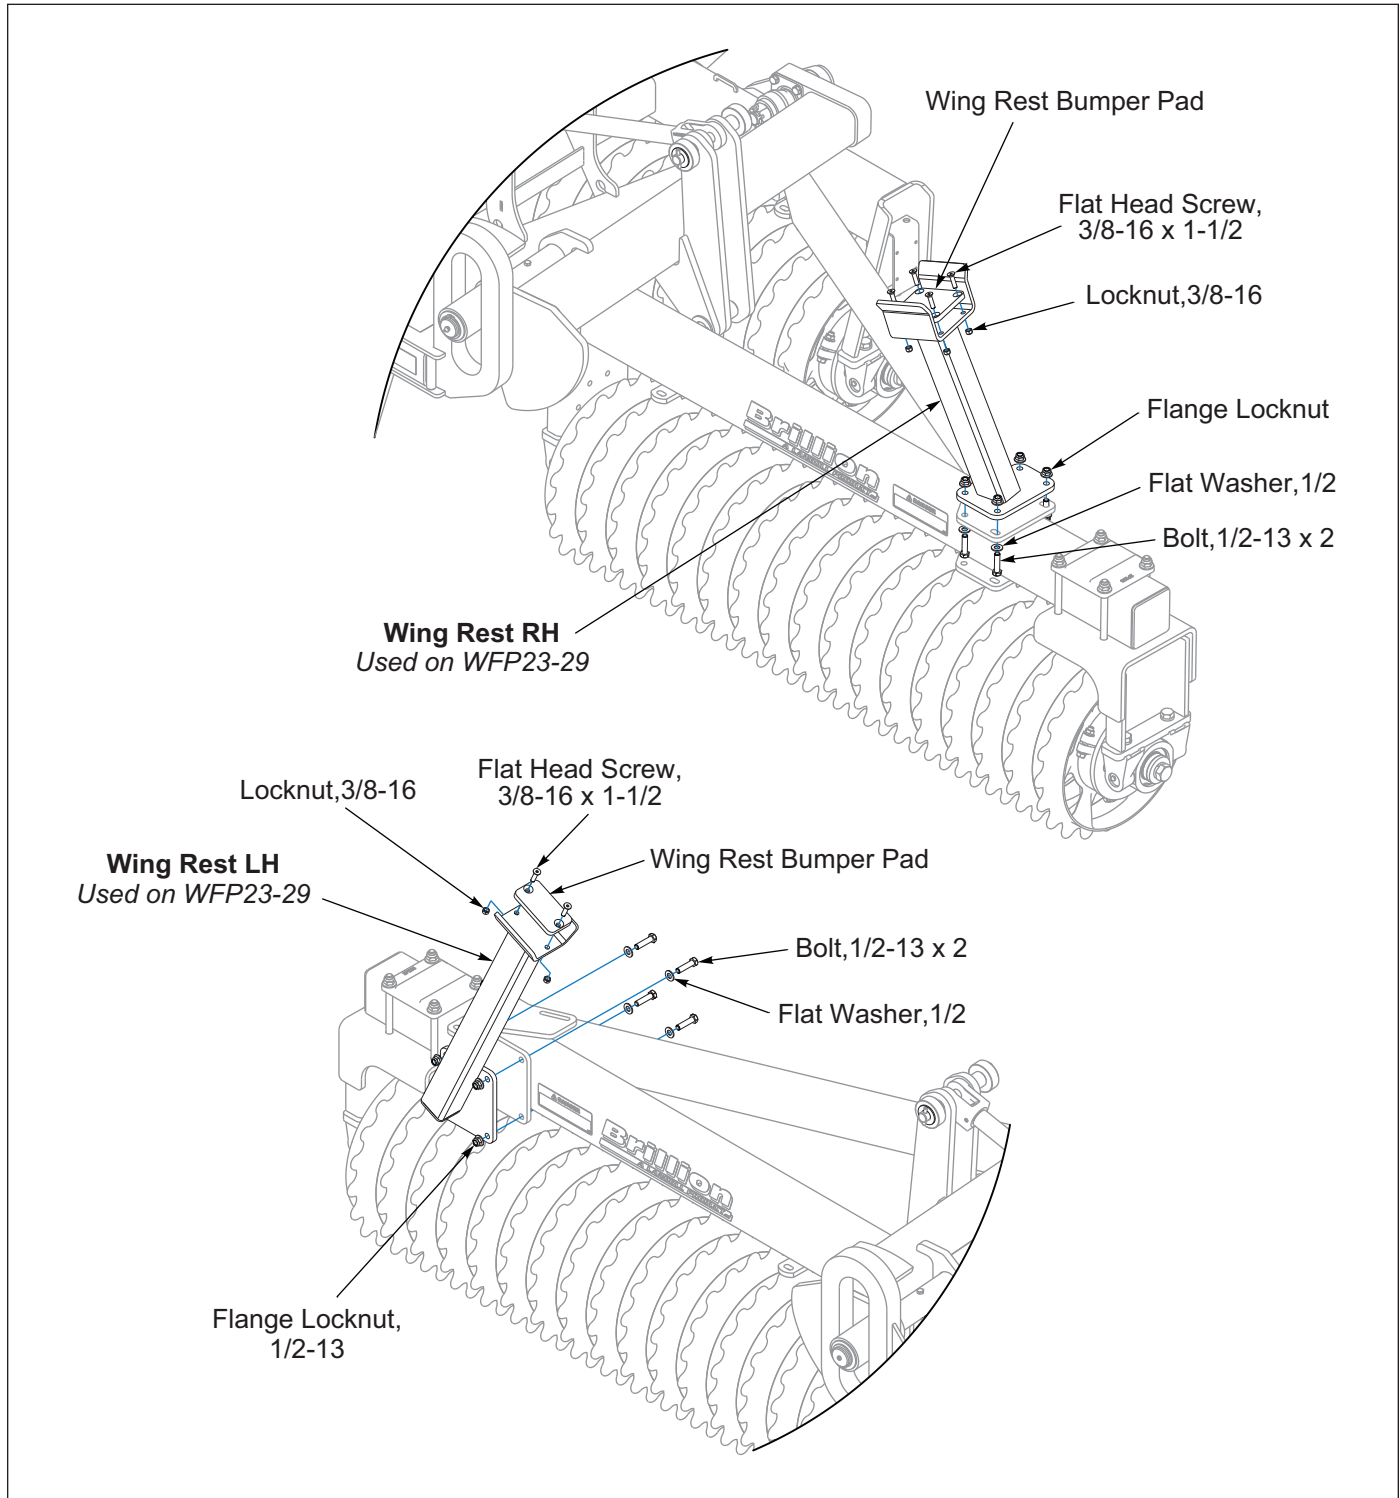

Figure 2-20: Wing Rest Installation, WFP23-29
1. Install the RH Wing Rest to the RH Wing Frame 4-Hole Plate located on the top of the Wing Frame Tube. Secure with 1/2-13 x 2 Bolts, Flat Washers and Flange Locknuts. **See Figure 2-20.**